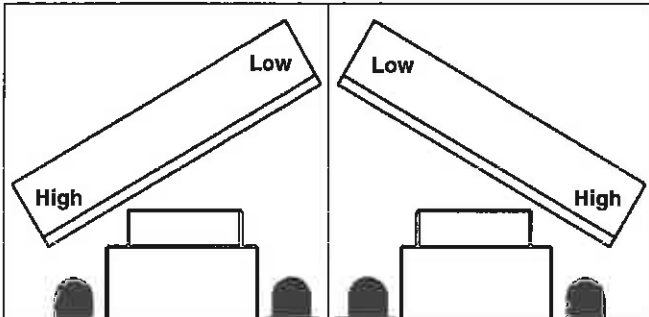

figure 54
- figure 54, retract tilt cylinders.
- figure 54, decrease the number of links between the upright and loader's cross member.
- figure 54, lengthen the hitch toplink.